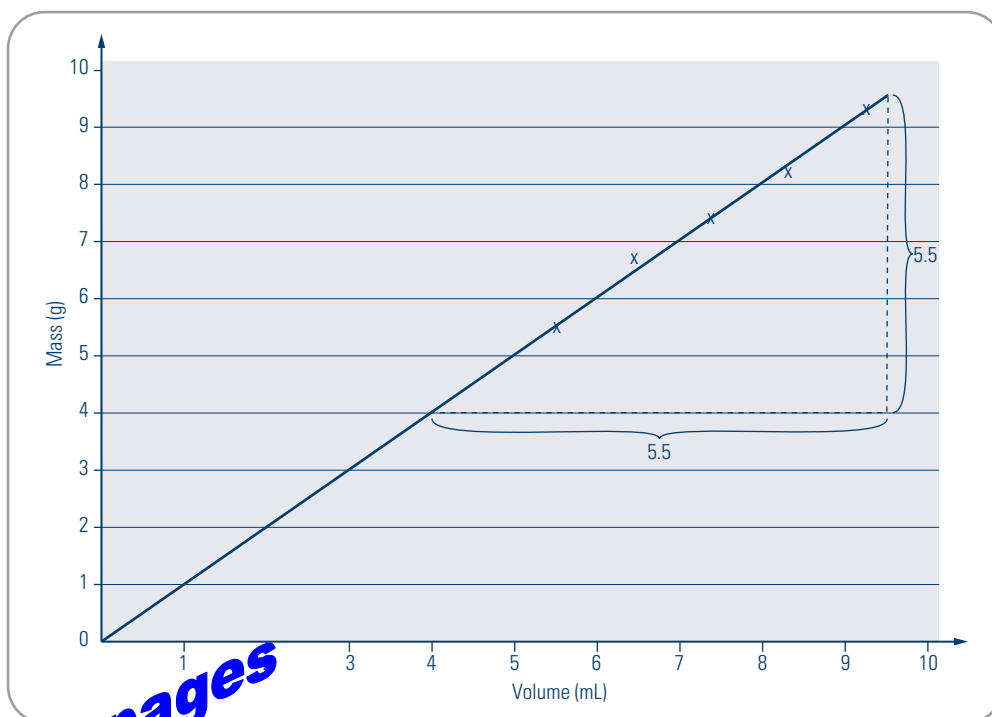

FIGURE 1
- 1 Graph of the data—see Figure 1.
Two slides sandwiched together (Figure 1 in student practical manual) are redrawn by students with the meniscus decreasing from the end where glass touches to the end where the matchstick is inserted.